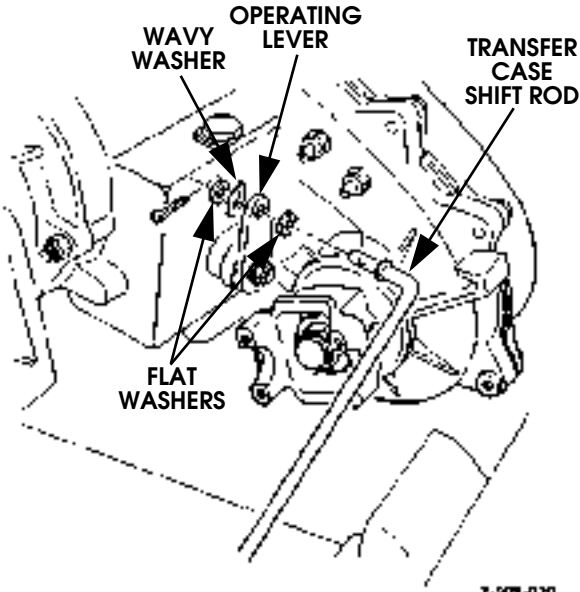

Figure 5-45: Shift Rod Attachment
3. Disconnect transfer case shift rod at operating lever (Figure 5-45).